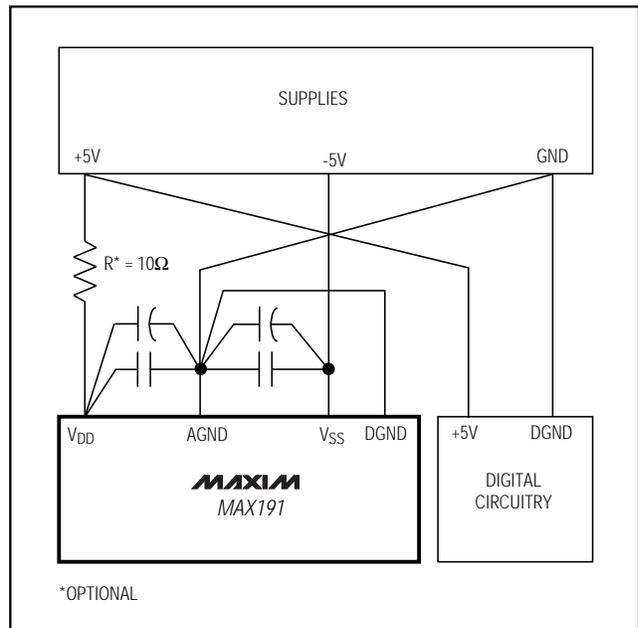

Figure 23. Power-Supply Grounding Connection
Figure 23 shows the recommended system ground connections. Establish a single-point ground ("star" ground point) at AGND, separate from the logic ground. Connect all other analog grounds and DGND to it. No other digital-system ground should be connected to this single-point analog ground. The ground return to the power supply for this star ground should be low impedance and as short as possible for noise-free operation.
0.01 μ F and 10 μ F bypass capacitors. Minimize capacitor lead lengths for best supply-noise rejection. If the +5V power supply is very noisy, a 10 Ω resistor can be connected as a lowpass filter to filter out supply noise (Figure 23).